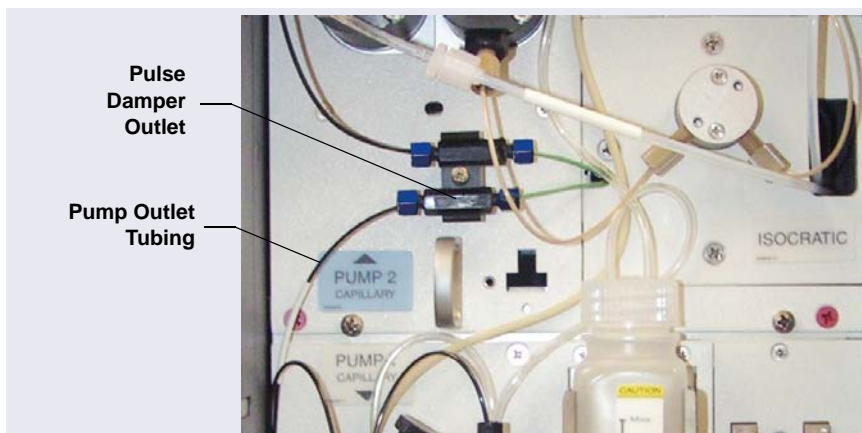

Figure 4-2. Capillary Pump Outlet Connection
2. Connect one end of the Dionex ASTC 500 tubing assembly (P/N 078497) to the pulse damper outlet (see Figure 4-2) and connect the other end to the trap column inlet.